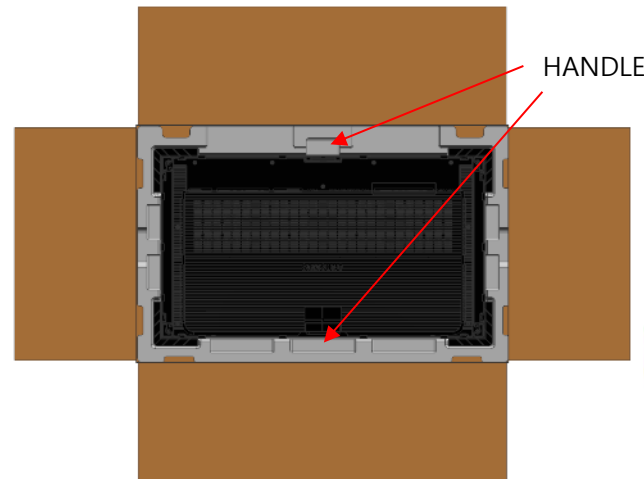

Fig. 2 Opening up
- ① Remove the Box tape at the upper area and then open up the box. (Fig.2)
- ② Remove the Top-Cushion and hold the handle inside PE-Bag and pull out the set then remove PE bag. (Fig.2)